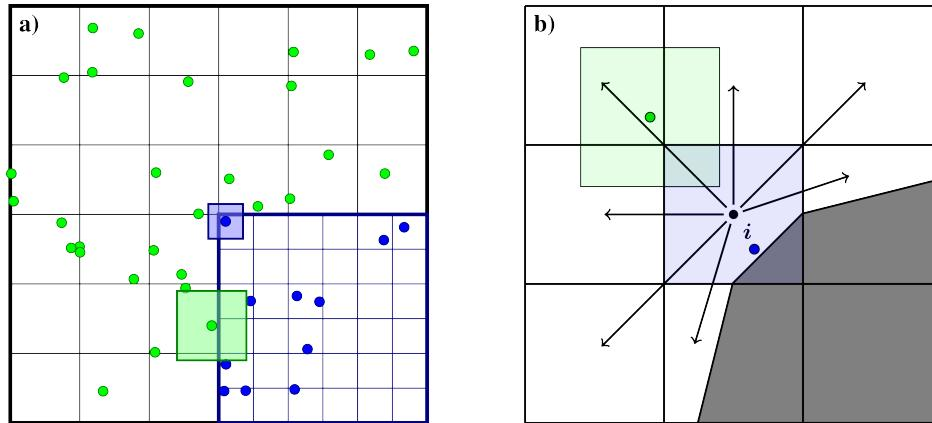

Fig. 3.4.1: Sketch of deposition schemes near refinement boundaries and cut-cells.
- `CoarseFineDeposition::Interp` This method permits the coarse-grid particles to deposit into the region underneath the fine grid. The deposited mass that falls underneath the fine grid is then interpolated from the coarse grid to the fine grid. For example, see the indicated coarse-grid particle cloud in the left panel Fig. 3.4.1. While this particle has a width given by the coarse-grid cell size, it will deposit into the coarse grid cells underneath the fine grid. The mass that ends up in these cells is interpolated to the fine grid, which in this case will inject mass into two layers of fine-grid cells.
depositing the particles on the coarse level, and then transferring them to the fine level and redepositing them there with the original particle width. Taking the left panel in Fig. 3.4.1 as an example, the green particle will then deposit into the coarse-grid cell as well as the first layer of fine-grid cells.